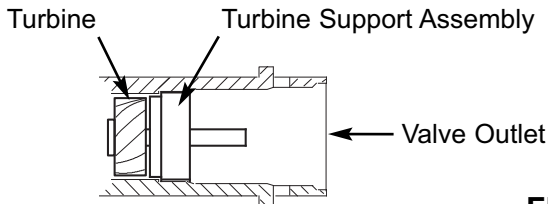

FIG. 9
3. Make sure the turbine assembly spins freely in the "out" port of the valve (See Figure 9).